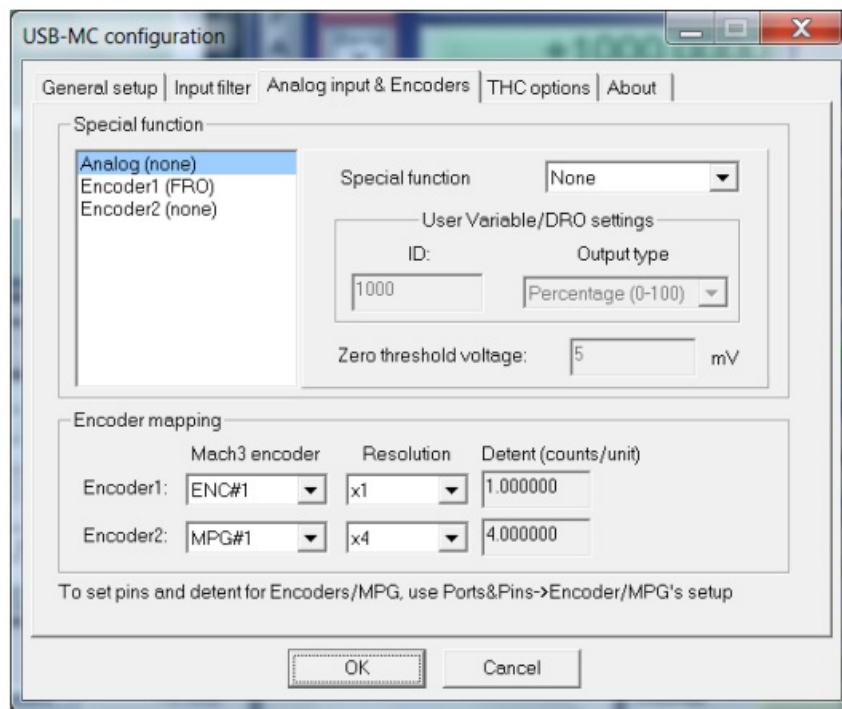

Figure 5.3 Analog input & encoders
USB-MC-INT motion controller offers one analog input, and in addition, enables simultaneous reading of two incremental encoders. Their functionality can be adjusted using this dialog (Figure 5.3).
Voltage threshold adjustment for analog input, given in mV. A read value that is less than or equal to this is considered to be zero (Figure 5.3).
USB-MC-INT motion controller supports simultaneous reading of two incremental encoders, including one from an MPG device (Figure 5.3). Since Mach3 offers adjustments for a total of seven encoder inputs, it is needed to map these two encoders to desired positions.
- It is used to adjust incremental encoder resolution (Figure 5.3). Available options are x1 and x4. Option x4 gives the best resolution and is appropriate e.g. for optical encoders. Option x1 gives basic encoder resolution, that is, one increment for one full cycle of state change on A and B lines. This option is appropriate e.g. little mechanical, rotational encoders, for which we want for one detent to correspond to a position change of 1 and not 4. Also, with mechanical encoders, there is a possible effect of contacts bouncing which induces errors in position reading thus it is needed to set debouncing for the encoder to an optimal value. The algorithm that is used for the x1 reading option is fairly resistant to these problems so it is possible to set debouncing to zero when this option is used.